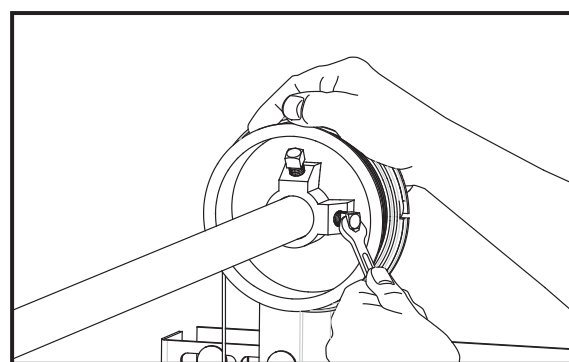

Fig: 3.5.3
- Once the cable is taut, slide the cable drum against the side bearing bracket and tighten the screws to the torsion bar. Fig 3.5.3.